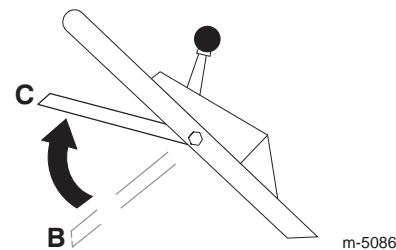

Figure 18
- Bring the blade control bail up into the middle position about 5 inches (12.7 cm) below the handle cross bar (Position C in Fig. 18).
4. Release the blade control bail (Position **B** in Fig. 18).